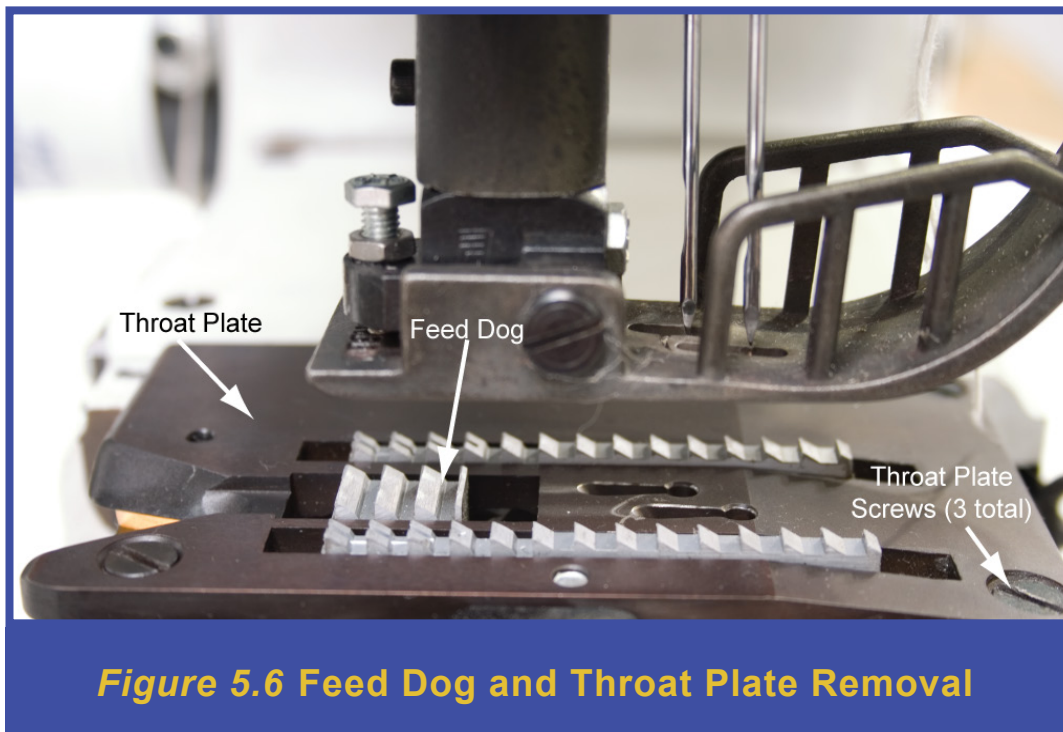

Figure 5.6 Feed Dog and Throat Plate Removal
4. Loosen and remove three screws holding the Throat Plate in place. Refer to Figure 5-6.